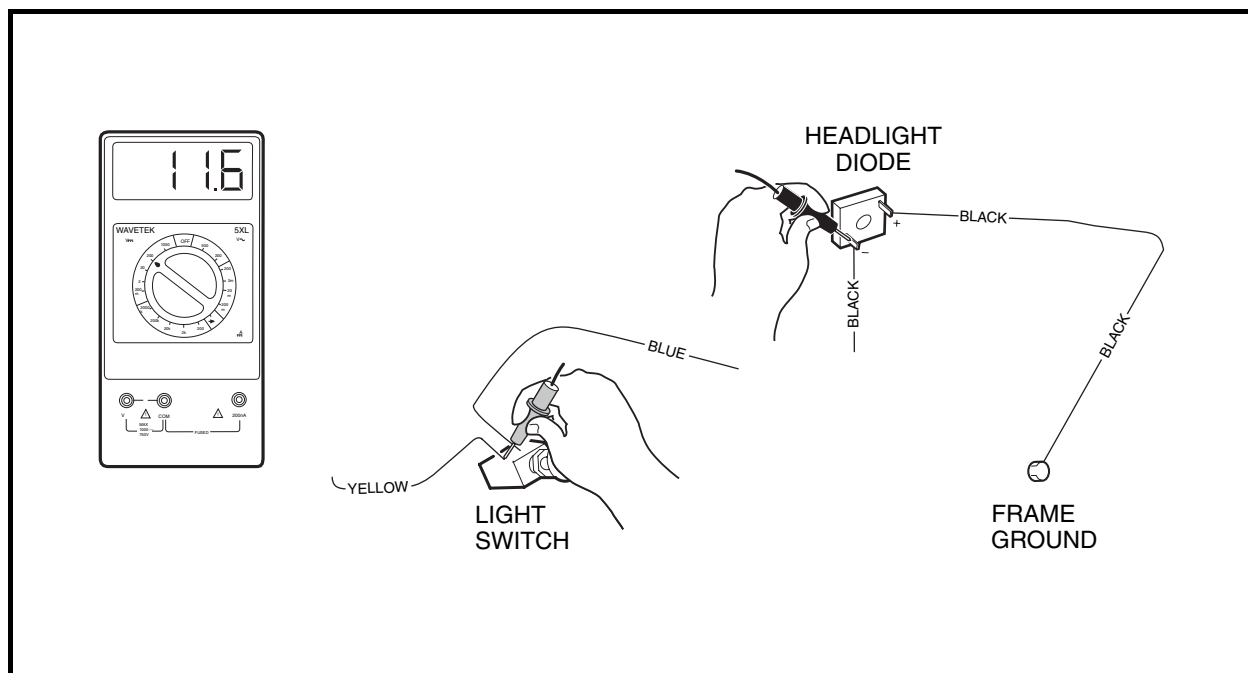

Figure 11-38 Headlight Diode Circuit Test
- Using a multimeter set on 20 volts DC, connect the red (+) probe to the light switch terminal with the yellow wire (**Figure 11-38, Page 11-36**).
5. Loosen the black wire connector (on the end of the long black wire) at the headlight diode assembly just enough to maintain the connection and yet expose part of the metal terminal in the connector. Place black (–) probe on the connector (**Figure 11-38, Page 11-36**).